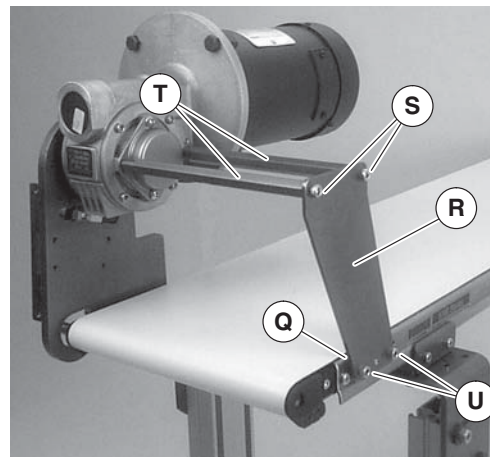

Figure 14
Install hex posts (Figure 14, item T). Attach wide end of support plate (R) to hex posts with screws (S). Attach narrow end of support plate to conveyor, using spacer (Q) and screws (U). Tighten screws to 80 in-lb (9 Nm).